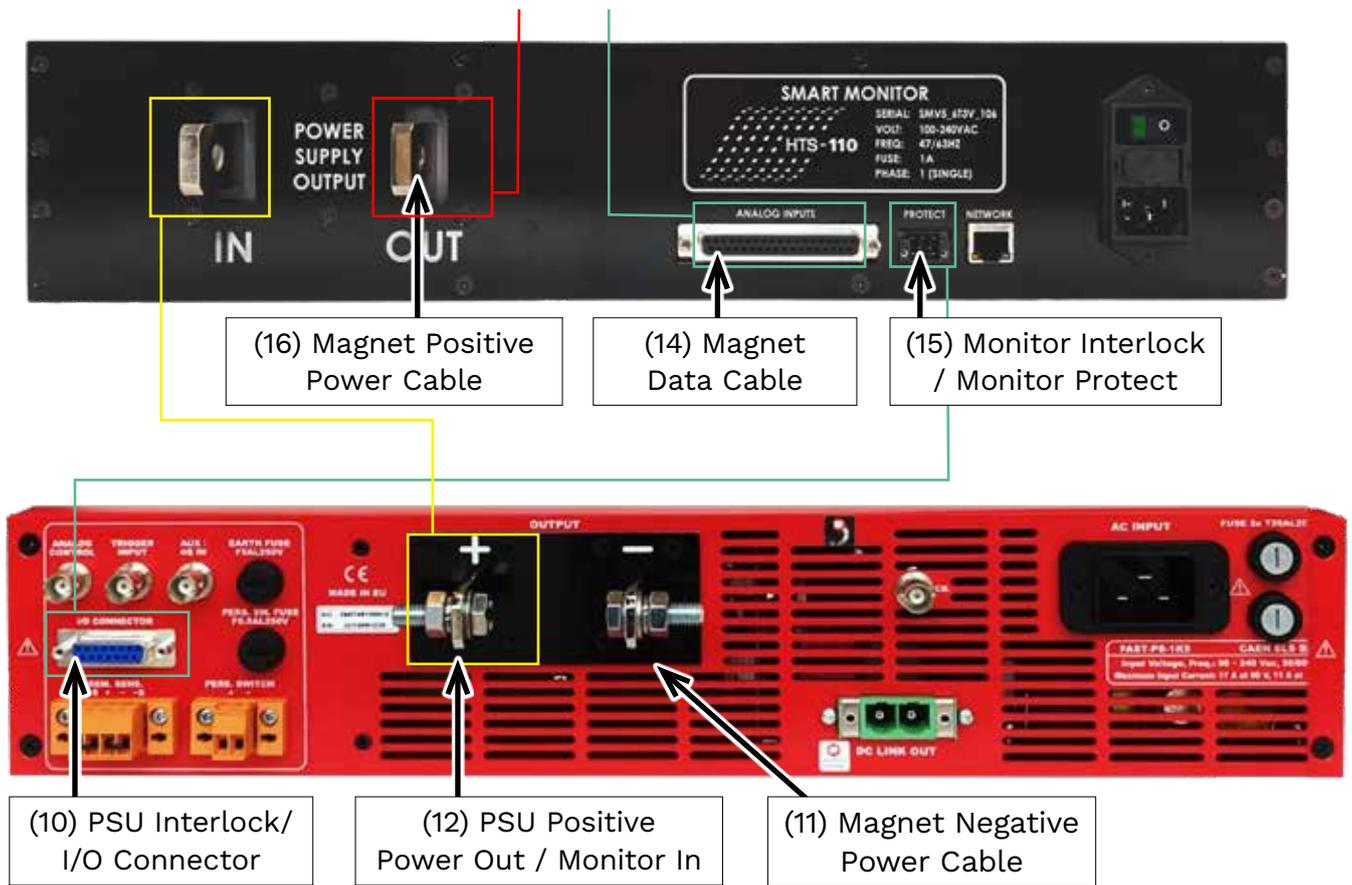

Figure 3: Interconnection diagram for the power supplies and Monitor.
9. Install the CAENels supply, as shown in the photo below (Figure 3).